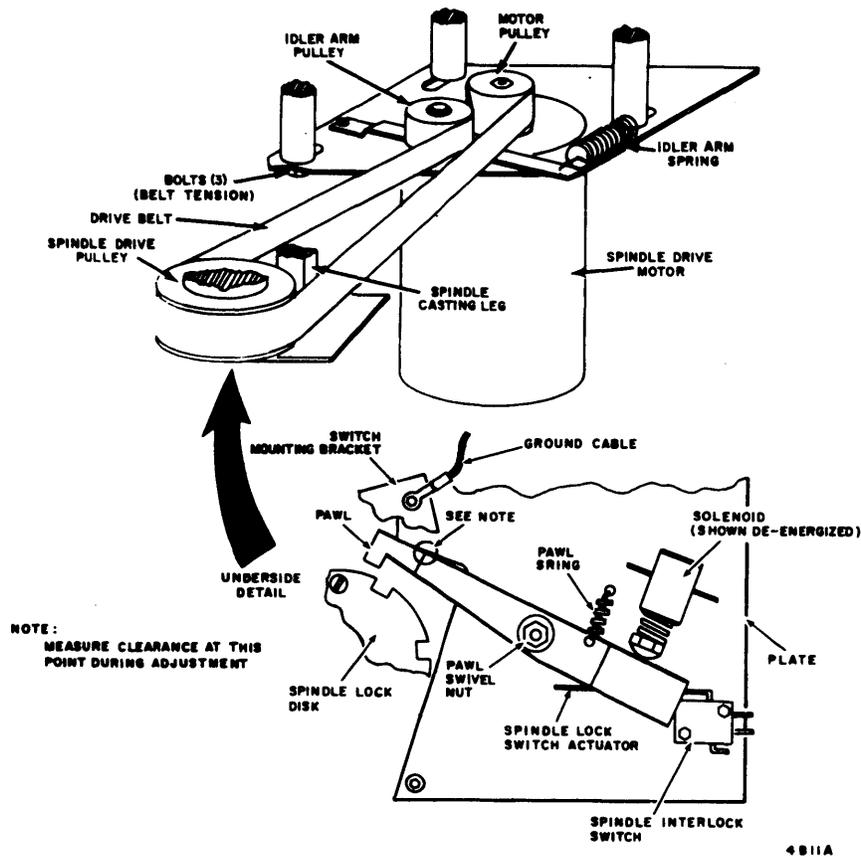

Figure 6-1. Lock and Belt Adjustment
- c. Tighten the screw/nut pivot through the pawl until all play is removed, but make certain that the pawl is free to pivot. Check that the acorn nut is completely threaded on to the armature of the solenoid, and that the armature spring is in place. Hook the extension spring between the pawl and the grooved pin. Loosen the screws securing the solenoid. Using a 6-inch scale, check the  $14/64 \pm 1/64$  inch gap between the pawl and the mounting plate (Figure 6-1). With the solenoid armature retracted and the acorn nut against the pawl, tighten the solenoid mounting screws. Remove the shim or feeler gage and check that the pawl/plate gap is correct.